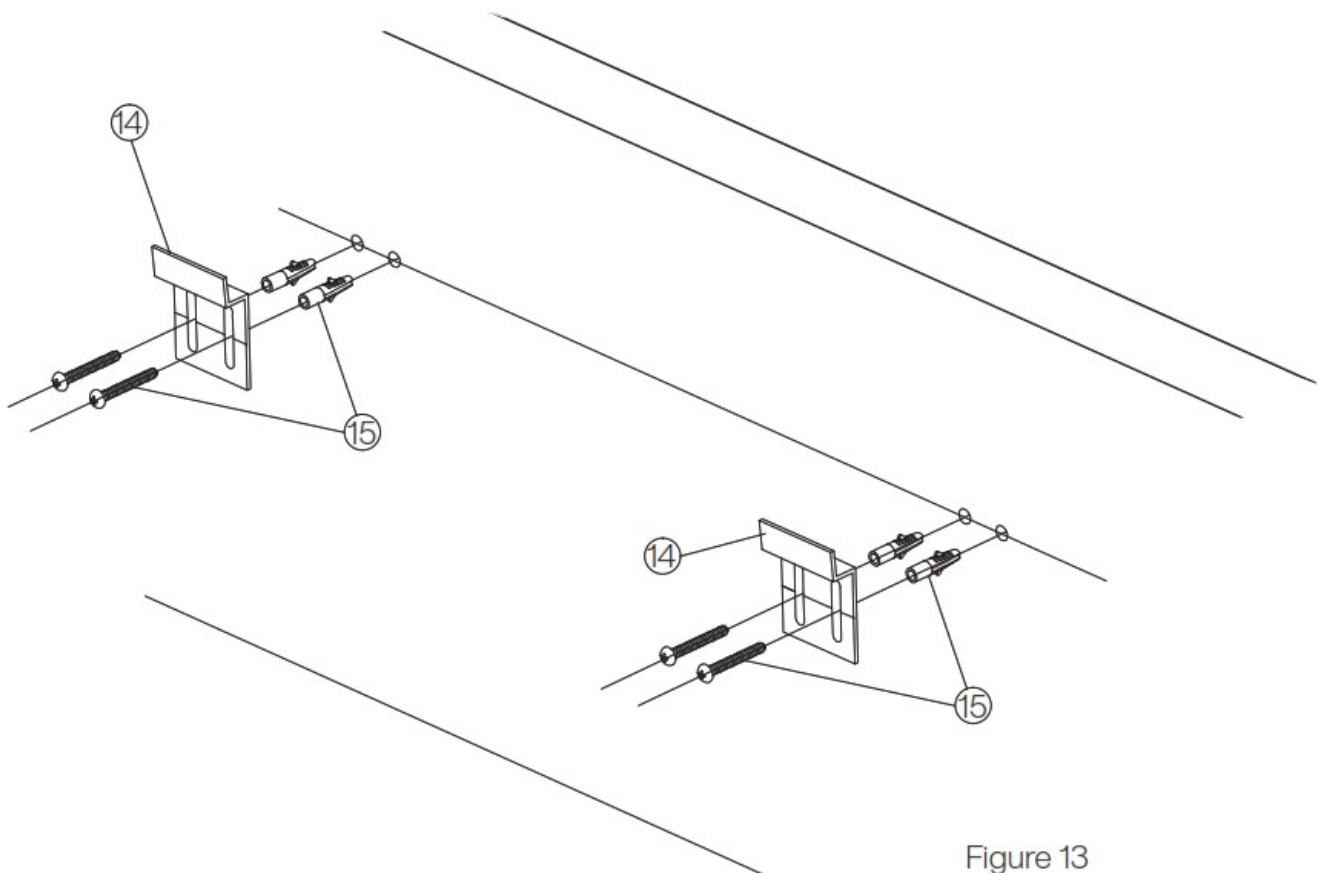

Figure 13
2. Drill holes on the marks on the wall with a percussion drill, insert the rubber plug, screw on the screws, and fix the wall bracket (Figure 13)